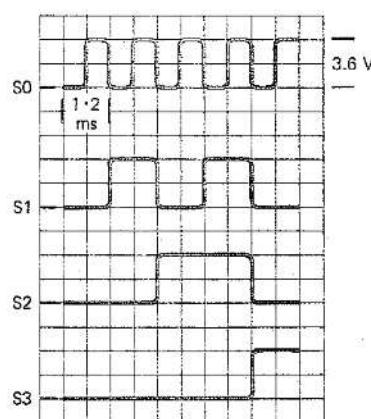

FIGURE 26-1.
5. See Figure 26-1 on the next page.